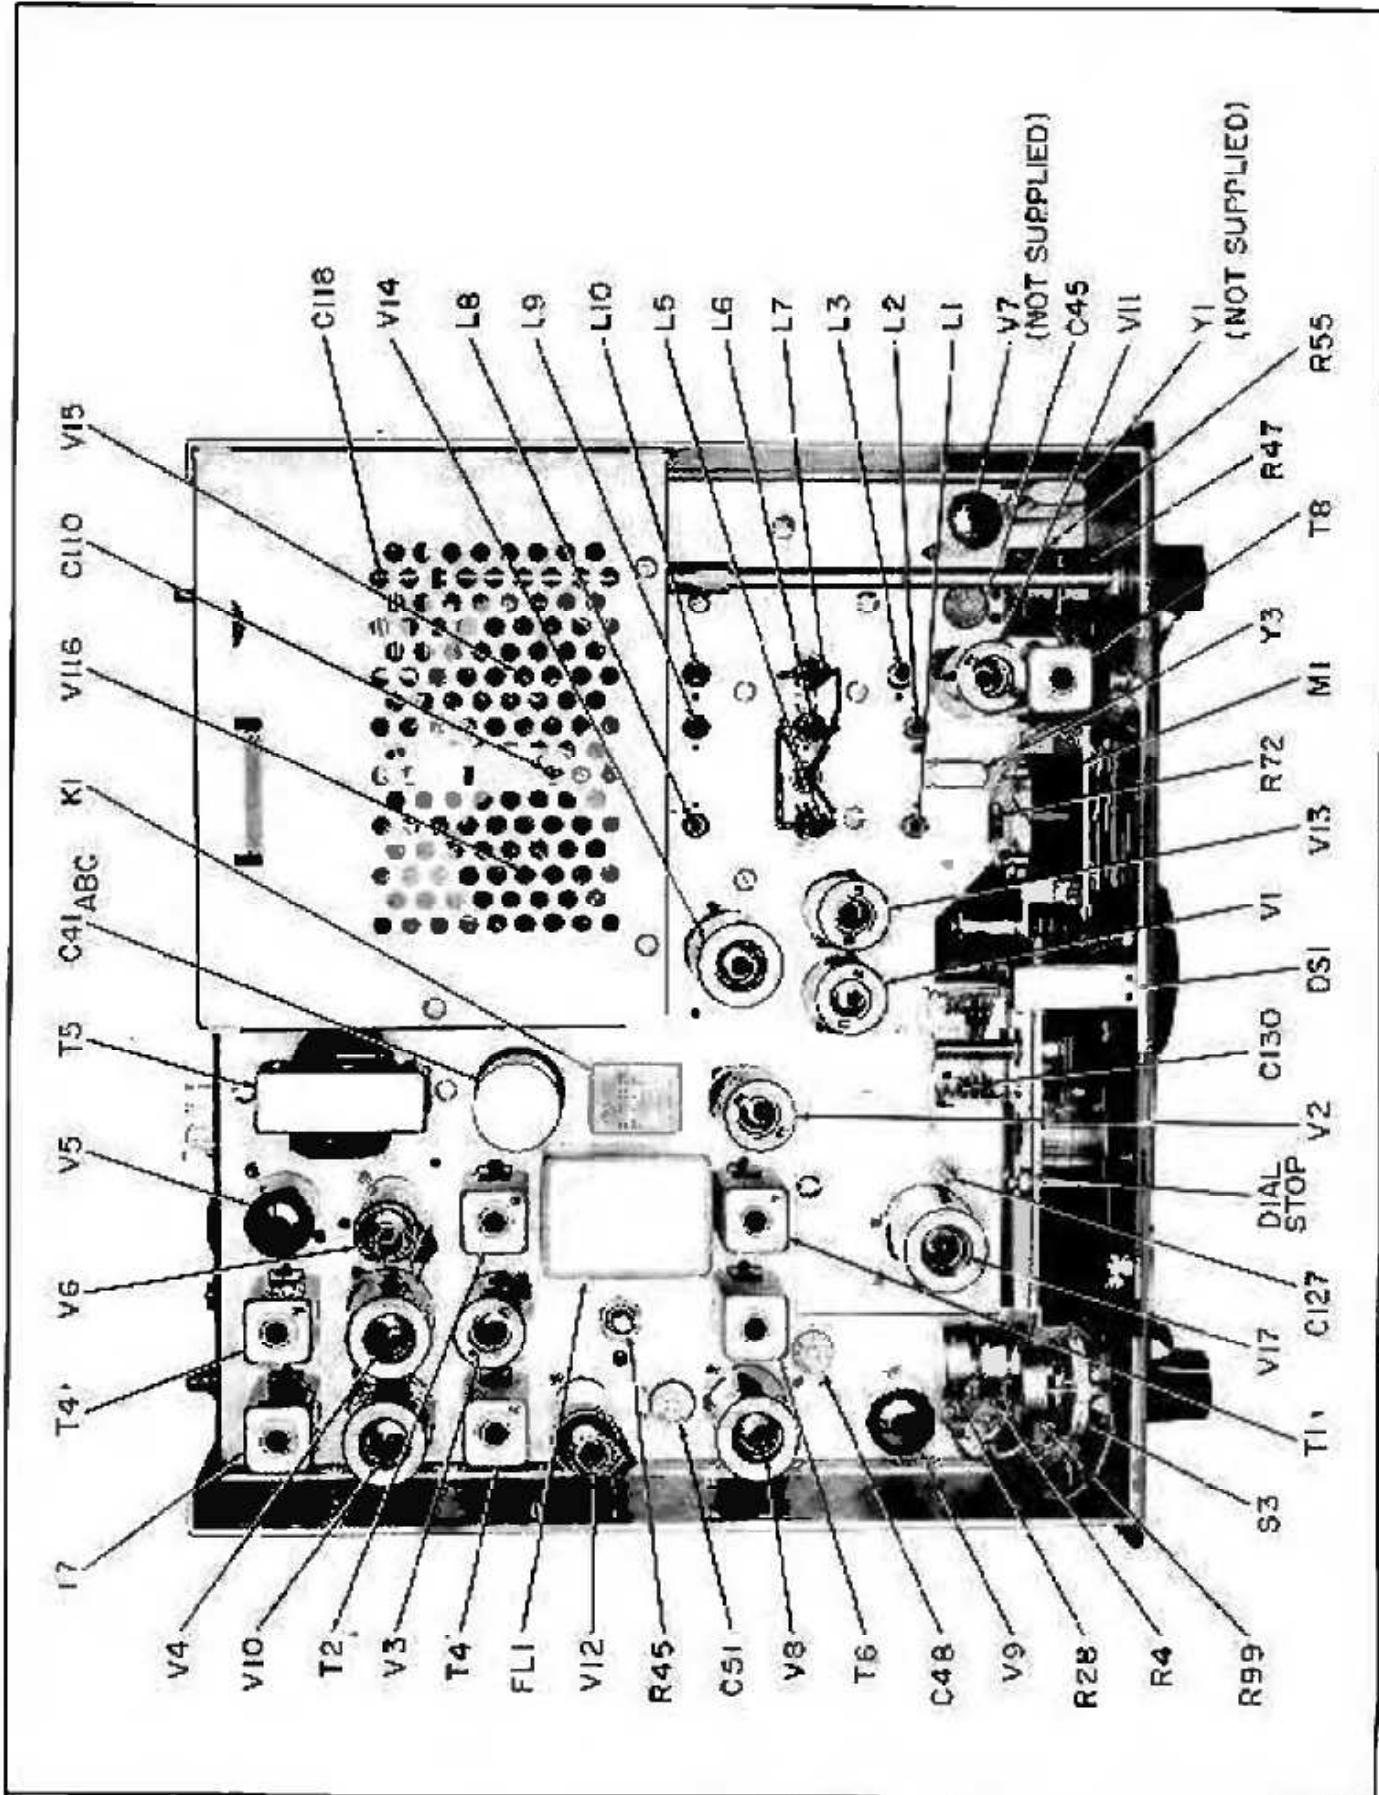

Figure 12. Top Chassis View of Transceiver.
Do not make any adjustments unless the operation of this transceiver is fully understood and adequate test equipment is available. Refer to Figures 12 and 13, the top and bottom views of the transceiver, for the locations of all adjustments.
1. Loosen the dial stop lock nut and back-off the dial stop screw. (See figure 12.)